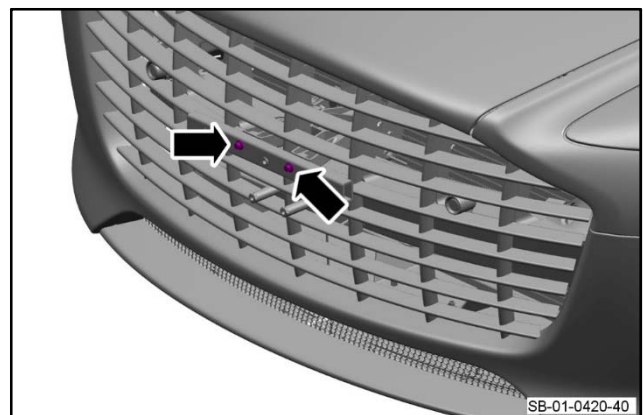

Figure 40
4. Install and torque the two screws that bolster for the front license plate plinth to the front bumper armature (refer to Figure 40).